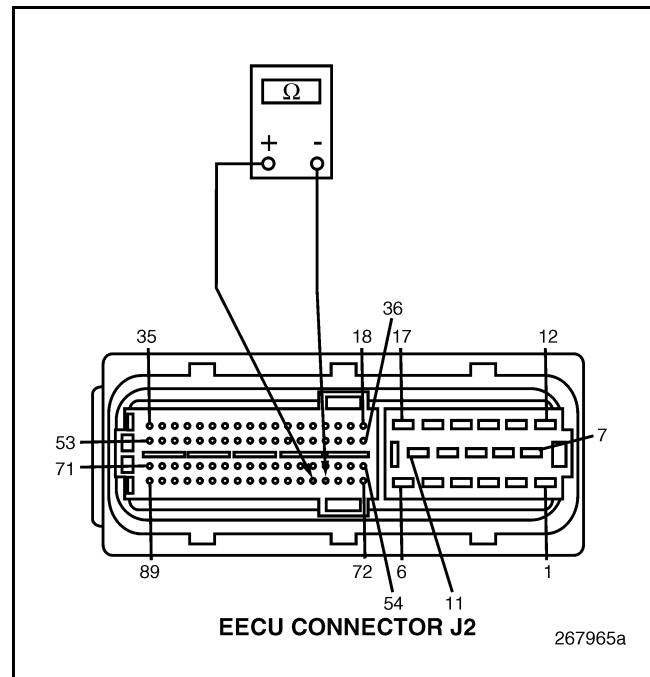

Figure 415
2. Connect the Engine Position (EP) Sensor.
4. Measure the resistance between EECU connector J2 pins 75 and 76 (see Figure 415).